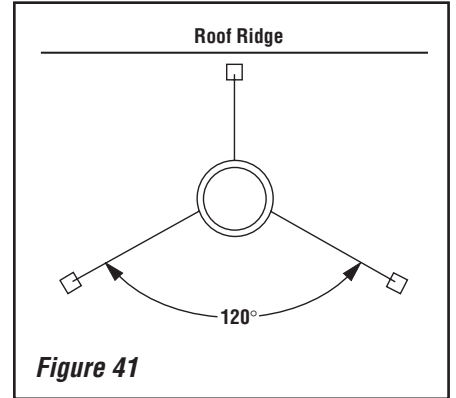

Figure 41
Note: If chimney extends more than 8' above roof surface, guy wires are also recommended. Use three (3) guy wires, attach to locking band assembly, extend and secure to roof in a triangular pattern (see **Figure 41**). Guy wires are not supplied by the manufacturer.